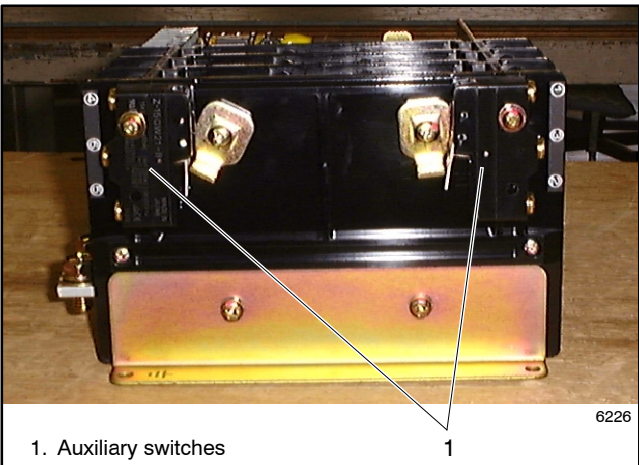

Figure 8-3 Auxiliary Switches
- 4. Remove the auxiliary switches. See Figure 8-3.